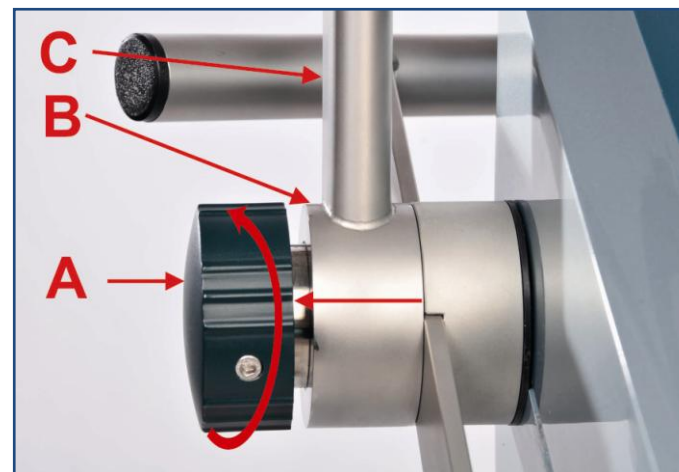

Fig. 4-5: Bring the rack into transport position
Unfasten the fixing screw (A) by turning it anticlockwise as far as it will go (Fig. 4-5).